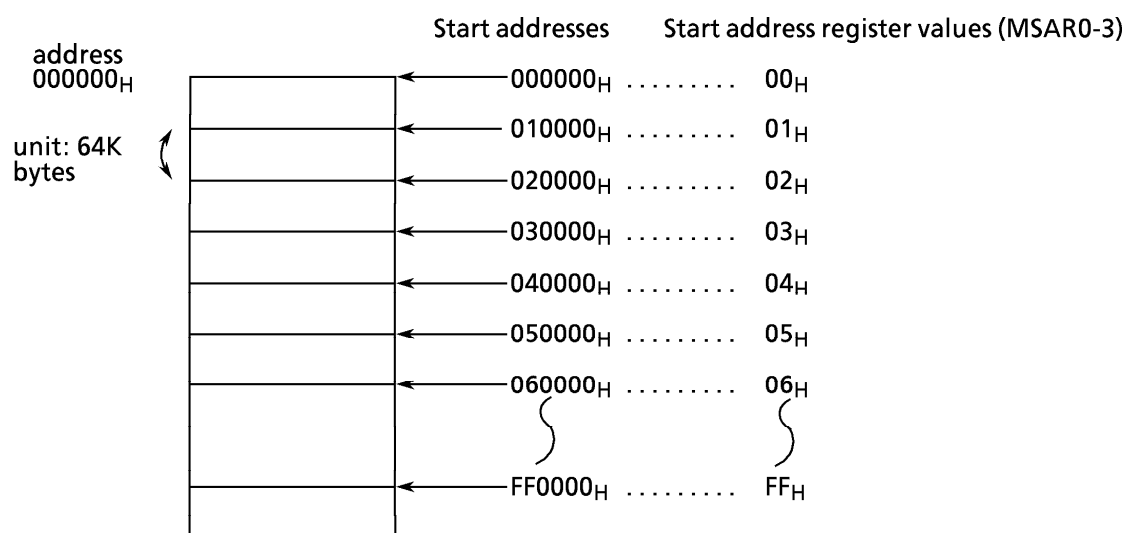

Figure 3.6 (8) Start Address Settings
As shown in the address decoder block diagrams (Figure 3.6 (2)-(4)), the address areas for which the chip select signals are output can be specified by enabling or masking comparison of the A8-A20 (for $\overline{CS0}$), A8-A21 (for $\overline{CS1}$), and A15-A22 (for $\overline{CS2}$ and $\overline{CS3}$).